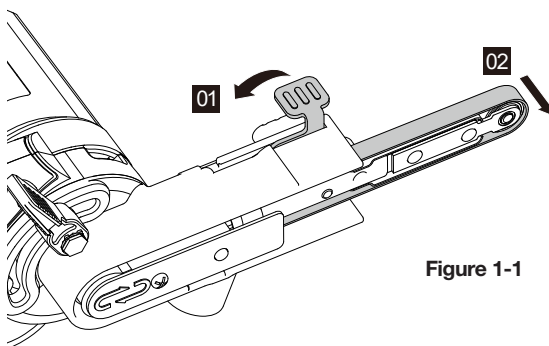

Figure 1-1
- Removing the sanding belt (See fig. 1-1)